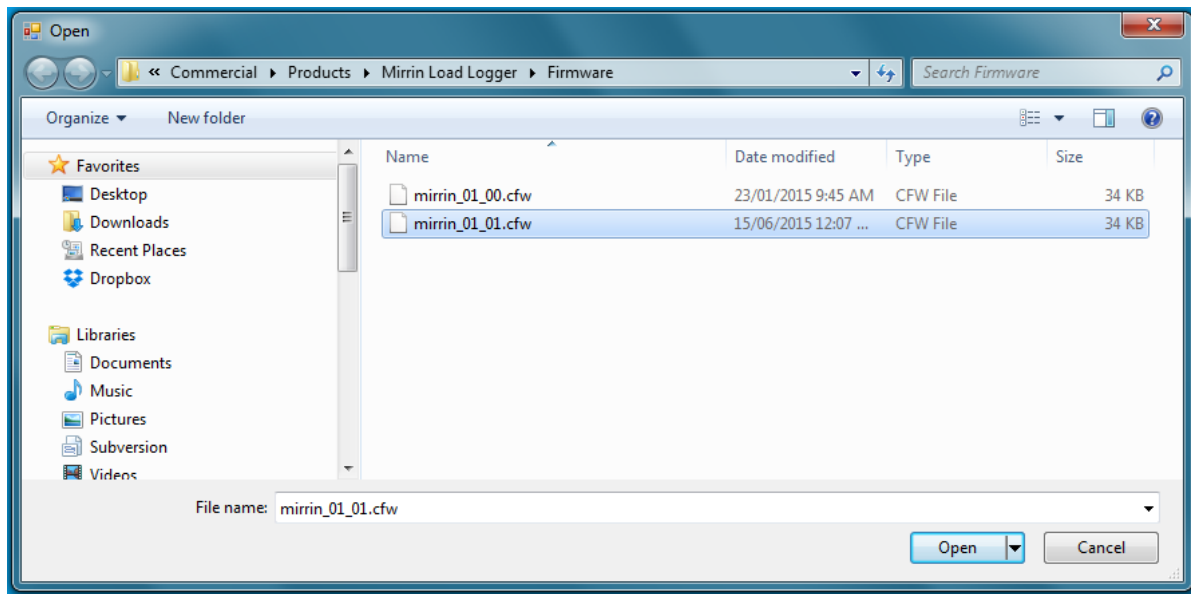

Figure 2.8.3
Step 3: Select the most recent file, in this example 'mirrin_01_01.cfw'. The selected file will appear in the 'File name' window as shown in figure 2.8.3.